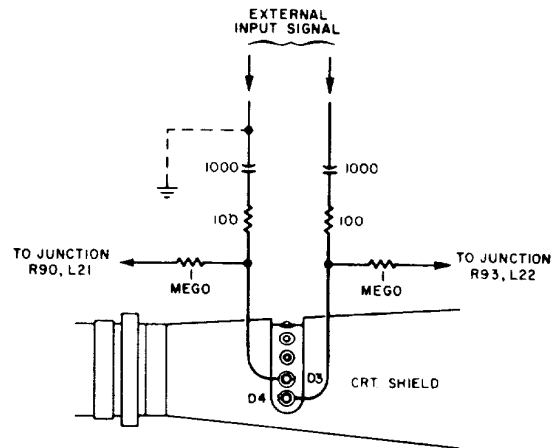

Figure 3-4. Connections for Direct Deflection Operation
a. With power disconnected from the oscilloscope, remove the access plate on the top of the cabinet, which exposes the CRT direct deflection terminals as shown in figure 3-4.
c. Connect input coupling components to provide for input signal and bias voltage coupling as shown in figure 3-4. Use capacitors with good high-frequency response, such as C103 listed in table 6-2. With the bias connections shown, the front panel VERTICAL POSITION control remains effective.
d. For single-ended input, ground the common signal lead at the point shown by the dashed ground lead in figure 3-4. For balanced input, leave both signal leads ungrounded.